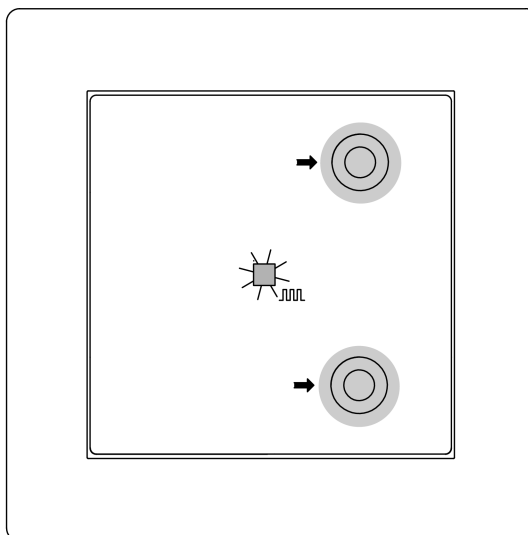
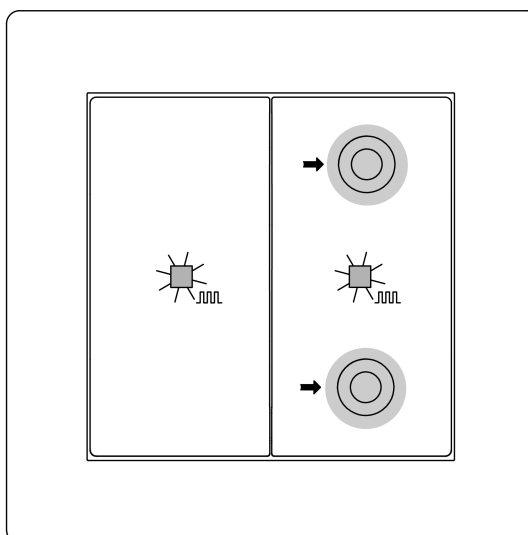

Figure 5: Activating programming mode (1-channel)
Figure 6: Activating programming mode (2-channel)
Programming the physical address and application program, 1-channel (Figure 5) and 2-channel (Figure 6)
- Activate programming mode: Press the top right button and bottom right button simultaneously and hold for longer than 4 seconds with 1-gang (Figure 5) and 2-gang (Figure 6). The Status LED flashes red. Programming mode is activated.